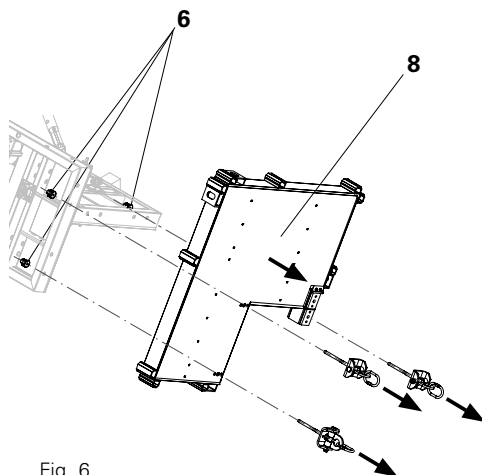

Fig. 6
1. Loosen the three cam nuts (6) of the Crane Hook for Concreting Platforms, and remove.
2. Pull the three Crane Hooks for Concreting Platforms out of the drilled holes of the Concrete Landing (8).
3. Remove the Concrete Landing from the formwork elements. (Fig. 6)